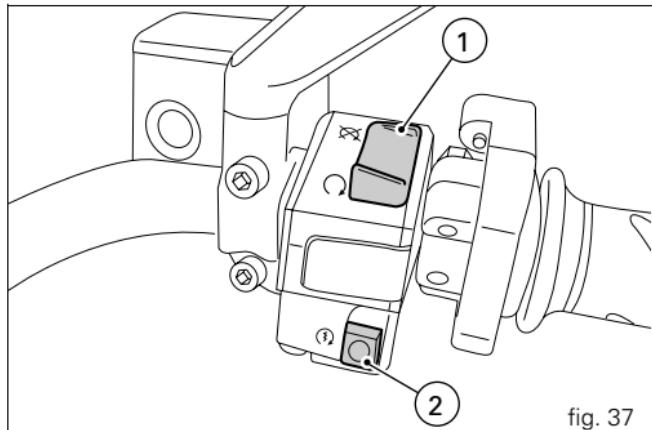

fig. 37
- 1) if the code is recognised, the protection system releases the engine lock. When you press the START (2, fig. 37) switch, the engine will start up;
Right-hand handlebar switch (fig. 37)